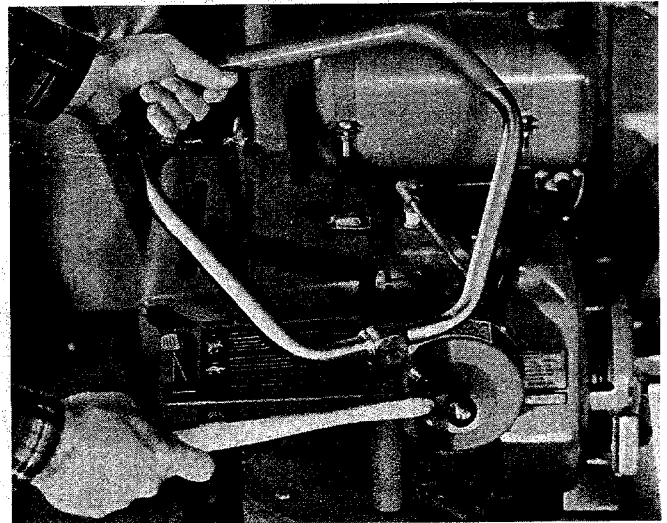

Figure 4
5. Remove roll pin at top of steering shaft and install steering handle (Fig. 4).